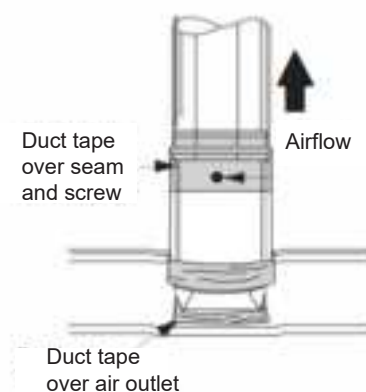

Figure 6.
10. Connect the duct with the air outlet adapter by using foil-backed tape to seal the joints and to hold it in place. Figure 6.